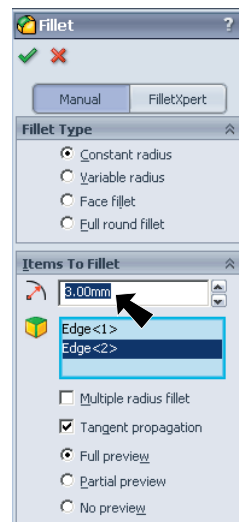

Fig. 16
Step 5. Set the **Radius**  to **3** in the Fillet Property Manager, **Fig. 16**.